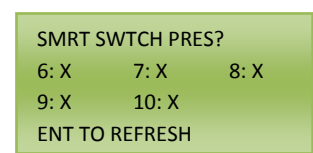

Figure 5.4
5. Count the number of 2-Wire Control Stations, RS-485 Control Stations, and Smart Switch Hubs. On the LCD Screen there should be a 0 next to the number of Smart Switches Present. For example, if there are 5 2-Wire Control Stations, 2 RS-485 Control Stations, and 3 Smart Switch Hubs, there should be a 0 next to numbers 1-10. To verify more than 5 Smart Switches, press the DOWN button to review the numbers. This completes the second test. See Figure 5.4 for a visual example.